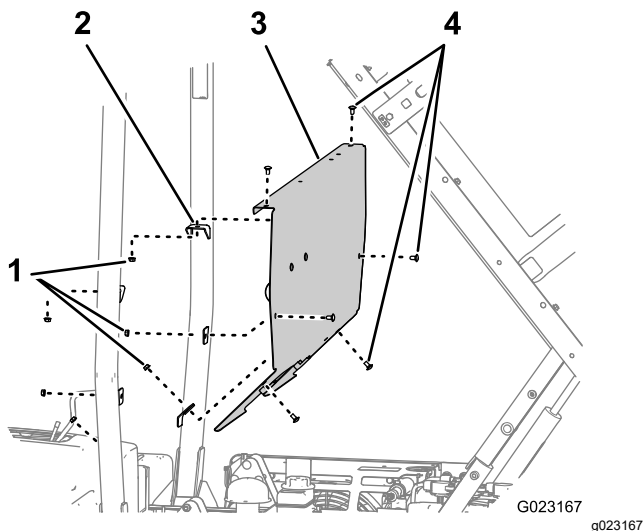

Figure 10
1. Remove the 6 carriage bolts and 6 nuts that secure the ROPS panel to the mounting brackets on the rollbar (Figure 10).
2. Remove the ROPS panel from the machine (Figure 10)